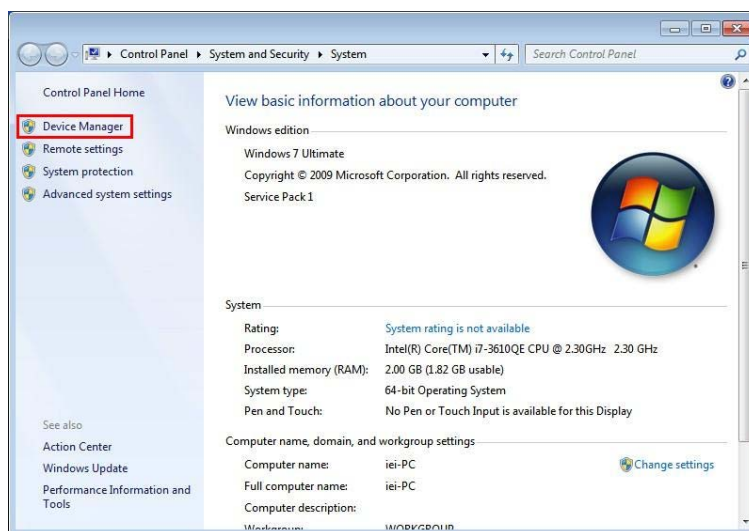

Figure 6-14: System Control Panel
Step 2: The system control panel window in Figure 6-14 appears.
Step 3: Click the **Device Manager** link (Figure 6-14).